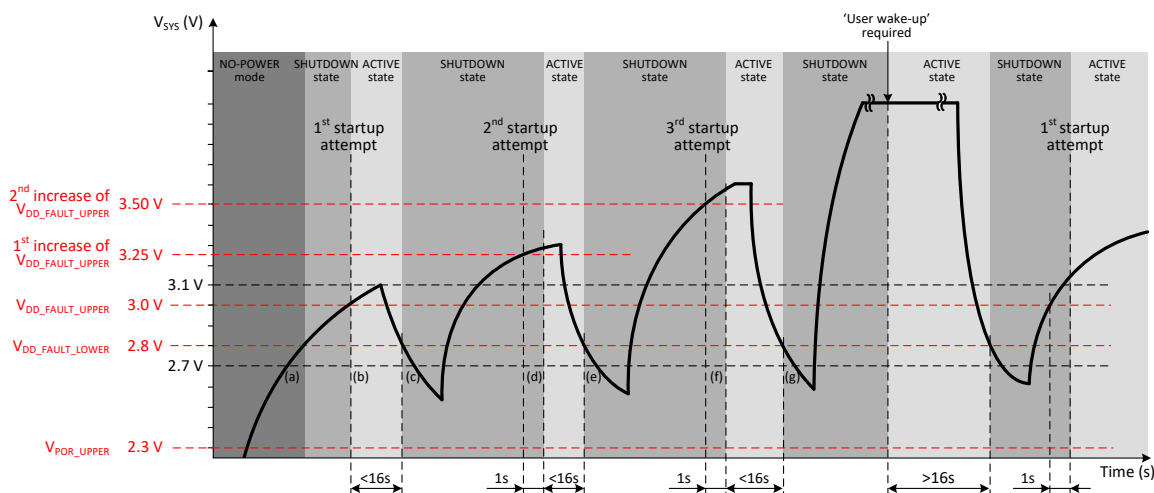

Figure 13: VDD_START Faults
The DA9063L `VDD_START` feature prevents endless looping of false-starts in a weakly-powered system. `VDD_START` limits the number of automatic restart attempts to three. With reference to Figure 13:
- Figure 13(a): the PMIC starts from NO-POWER mode.
- Figure 13(b): First startup attempt. The PMIC transitions to the ACTIVE state when V_{SYS} rises above $V_{DD_FAULT_UPPER}$.
- Figure 13(c): If, during the first startup attempt, the V_{SYS} supply drops below $V_{DD_FAULT_LOWER}$ for more than 100 ms, the PMIC shuts down to the SHUTDOWN state. $V_{DD_FAULT_UPPER}$ is increased automatically by 250 mV. However, the increased $V_{DD_FAULT_UPPER}$ is limited to a maximum of 3.70 V.
- Figure 13(d): Second startup attempt. If V_{SYS} rises above the new $V_{DD_FAULT_UPPER}$ threshold, then the PMIC will power-up to the ACTIVE state.
- Figure 13(e): If, during the second startup attempt, the V_{SYS} supply drops below $V_{DD_FAULT_LOWER}$ for more than 100 ms, the PMIC shuts down to the SHUTDOWN state. $V_{DD_FAULT_UPPER}$ is increased automatically by a further 250 mV (500 mV above its original setting). However, the increased $V_{DD_FAULT_UPPER}$ is limited to a maximum of 3.70 V.
- Figure 13(f): Third startup attempt. If V_{SYS} rises above the new $V_{DD_FAULT_UPPER}$ threshold, then the PMIC will power-up to the ACTIVE state.
- **Figure 13(g):** If, during the third startup attempt, the V_{SYS} supply drops below $V_{DD_FAULT_LOWER}$ for more than 100 ms, the PMIC shuts down. From then on, `AUTO_BOOT` and wake-up from non-user events are temporarily disabled. 'User events' are defined in Table 30.